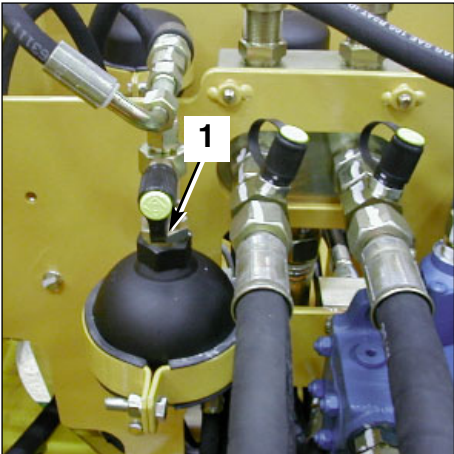

Fig. 1 Accumulator
- 2- Measure the pressure on the assistance pressure accumulator (1 fig. 1) using the manometer.